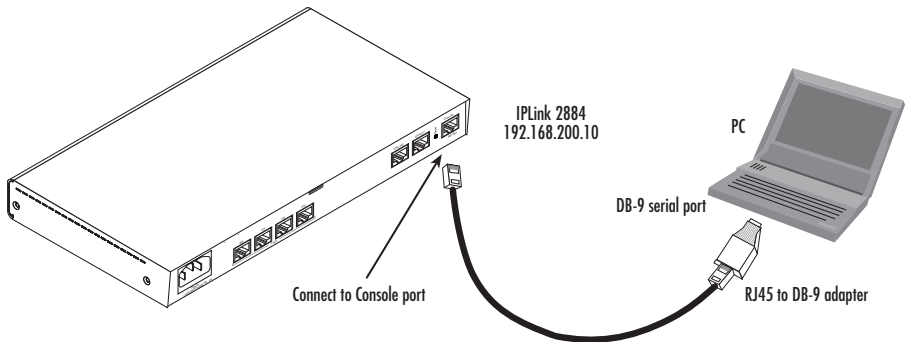

Figure 4. Connecting to the PC's Console port
1. To access the IPLink configuration via the console port, connect the DB9-RJ45 adapter to the DB-9 serial port on the PC or dumb terminal. Use the RJ45 straight-through cable between the adapter and the console port on the 2884. (see Figure 4).